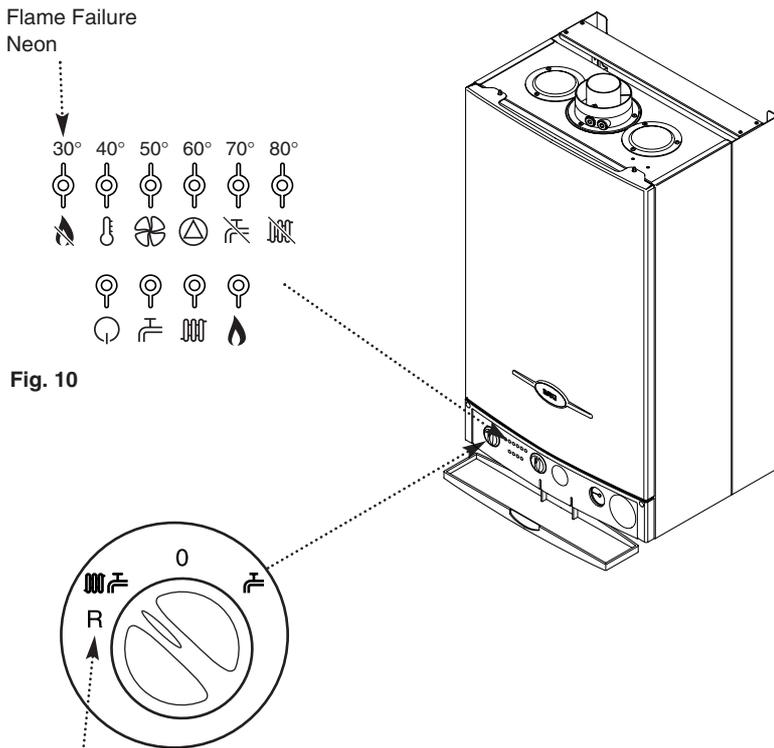

Fig. 10
1. The red flame failure neon (  ) will illuminate in the event of the burner failing to light, or when incomplete lighting of the burner occurs (Fig. 10).